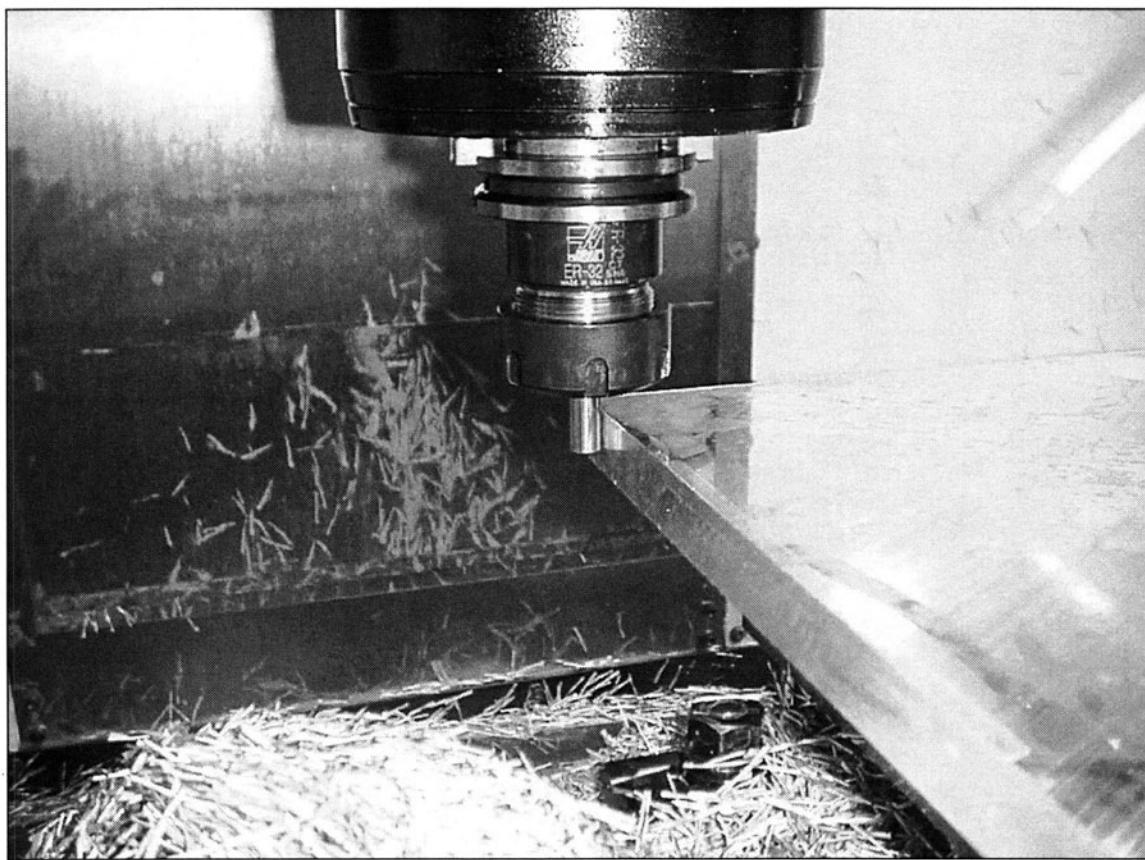

FIGURE 15-6 A dowel pin is used in a tool station and programmed to create a work stop in a CNC mill.
24. *Use a dowel pin in a tool station to create a stop. (See Fig. 15-6)*